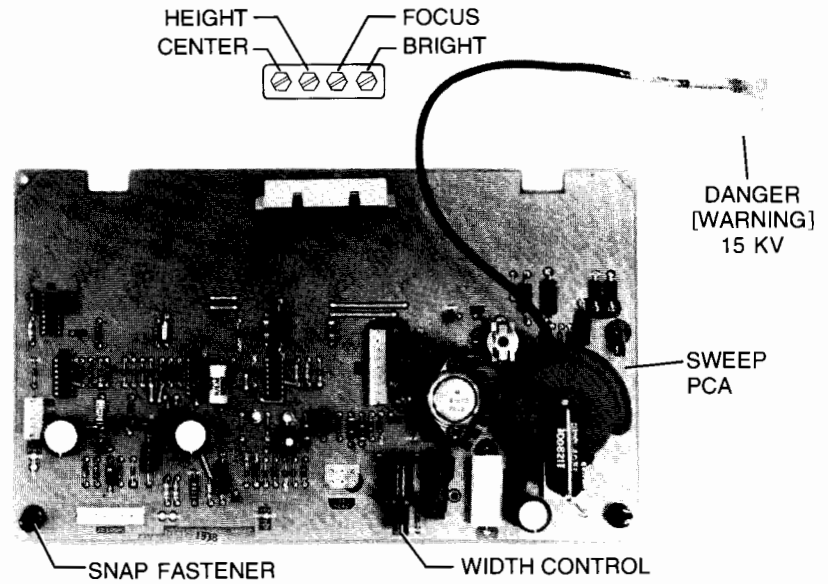

Figure 7-7. Sweep PCA
3. Remove the Sweep PCA (figure 7-7) from the mainframe by pulling outwardly on each of the two snap fasteners. Use care and remove the Sweep PCA.